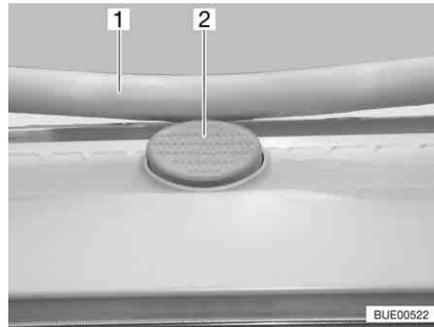

Fig. 61 Safety knob on the Heki skylight
- Press the safety knob (Fig. 61,2) and pull the bar (Fig. 61,1) down with both hands.
- Push the bar upwards with both hands until it is above the safety knob (Fig. 61,2).